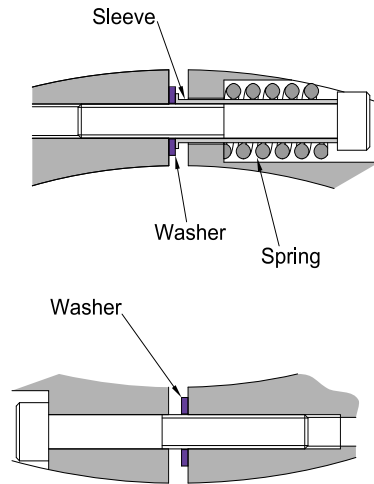

Figure 68 – Rope Guide Inner Band Spring and Sleeve Arrangement
- Figure 68 . Loosely tighten the socket head capscrew.